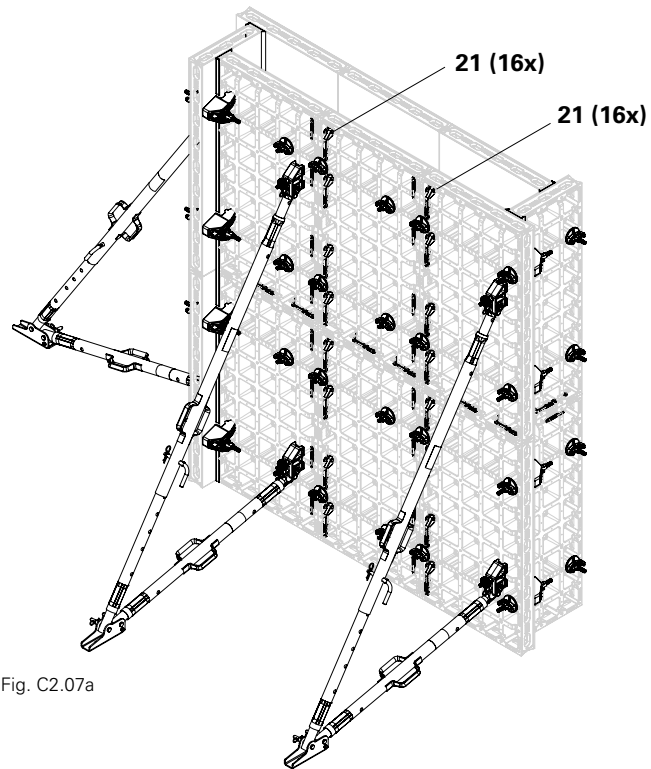

Fig. C2.07a
- Connect every vertical panel joint from both sides with 4 DUO couplers (**21**) each. (Fig. C2.07a)